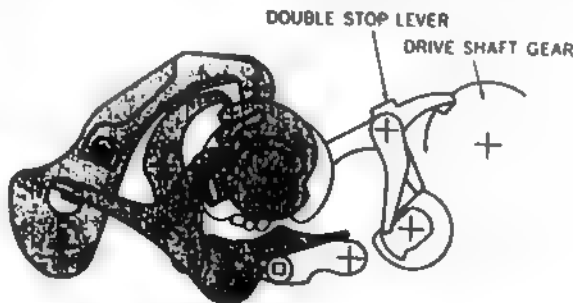

Figure 4-6. Double Stop Lever, Wound Position (Top rear view).
e. Wind and release the shutter. Observe that the lower portion of the double stop lever engages the driveshaft gear, as illustrated in figure 4-4 "B"; and that the upper portion rests against the stop disc, as illustrated in figure 4-6. The pawl (fig. 1-10) must engage the teeth of the ratchet gear when the shutter is fully wound or released.